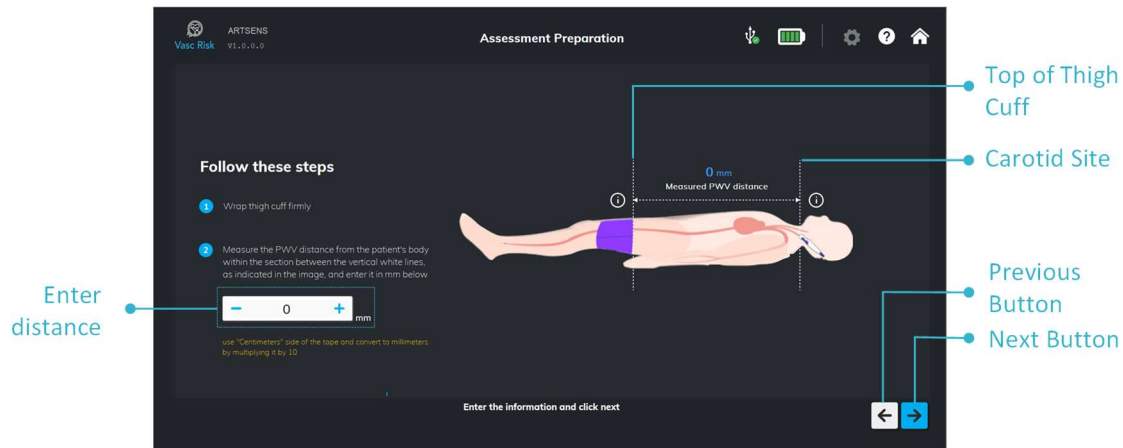

Fig.21. Assessment Preparation Page
- 4. As instructed on the page, wrap the cuff firmly around the left thigh as shown in fig. 21.
7. Measure the PWV distance from that point on neck to the top of the cuff and enter it (refer fig. 21). It needs to be measured above the patient's body using the Carotid Site and the Top of Thigh Cuff as landmarks for measurement and is measured in a straight line above the body. The PWV distance should not use patient contact where the individual contours of the patients' body can incorrectly increase PWV distance based on their own individual anatomical external body structure.
In fig. 21 illustrates the correct way to wrap the thigh cuff.
- It is strongly recommended to always position the cuff around the center region of the thigh, as shown in fig. 21.